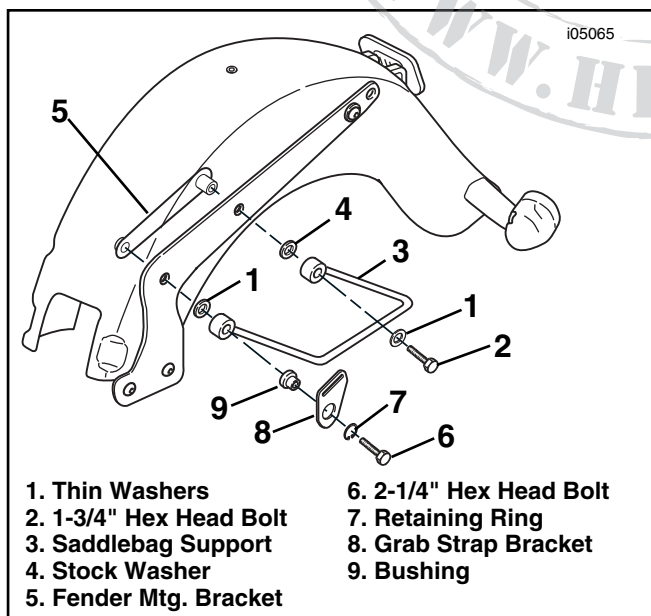

Figure 12. Saddlebag Support Installation (Left Side), 2003 and Later FLSTC and FLSTF
- See Figure 12. The saddlebag supports (3) are side-specific.